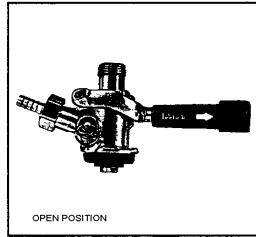

Fig. 8
- Pull tapping handle out and press downward until it locks into position. (See Figure 8) The keg is now tapped.